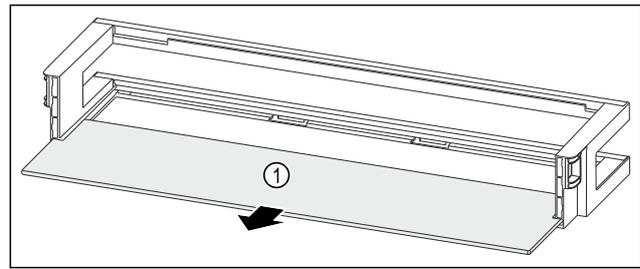

Fig. 139 Door rack with shelf
- ▶ Remove the shelf Fig. 139 (1).